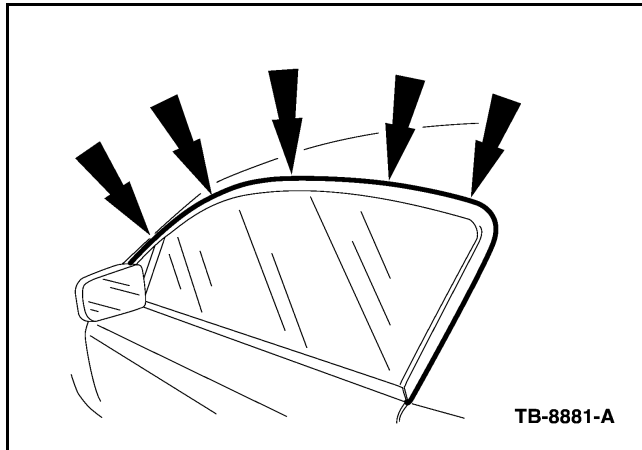

Figure 5 - Article 08-26-7
7. Remove and inspect the foam seal of window weatherstrip retainer at the A-pillar. Tears in the foam seal may allow water to enter the vehicle, between window weatherstrip retainer and the A-Pillar, and travel inside the interior A-Pillar trim molding into the dash kick panel area. (Figure 5)